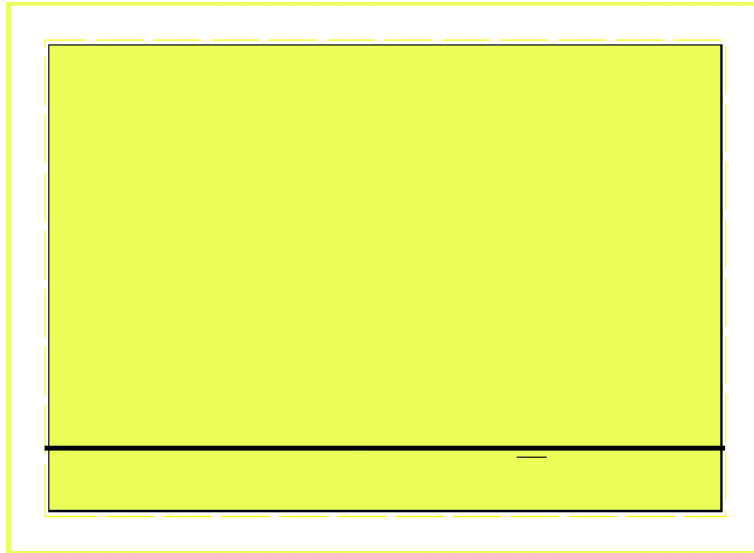

Figure 4-45
20. Select *Modify/Change*, select the line you just placed and change the "Line Width" to **4**. Don't worry if it appears thicker than the border rectangle. Go to *Draw/Text* and type in **#CONA#**. Select a font, set the size to **0.16" (4mm)** and click on "Left" justification. Place the text in right side area of the bottom section. See Figure 4-45. #CONA# is the key word that causes IRRICAD to insert the company name into the design. Many more dividing lines and text can be added to the template.